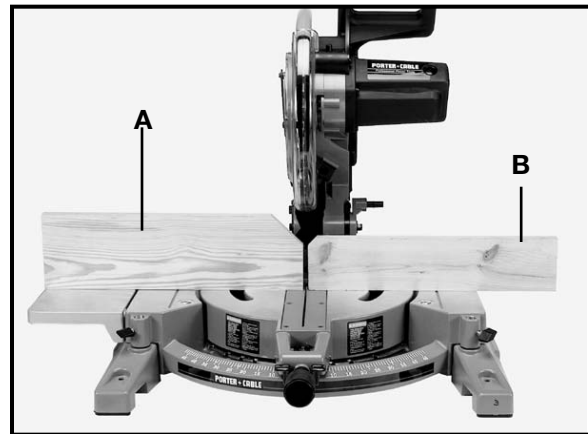

Fig. 36
Holes are provided in the fence to attach an auxiliary fence (A) and (B) Fig. 36. This auxiliary fence is constructed of straight wood approximately 1/4” thick by 3/4” high by 16 inches long as shown at (B); and 1/2” thick by 5” high by 17” long (A) Fig. 36.
**NOTE:** The auxiliary fence (A) is used **only** with the saw blade in the 0 degree bevel position (90 degrees) to the table. The auxiliary fence must be removed for all bevel cuts (blade tilted).